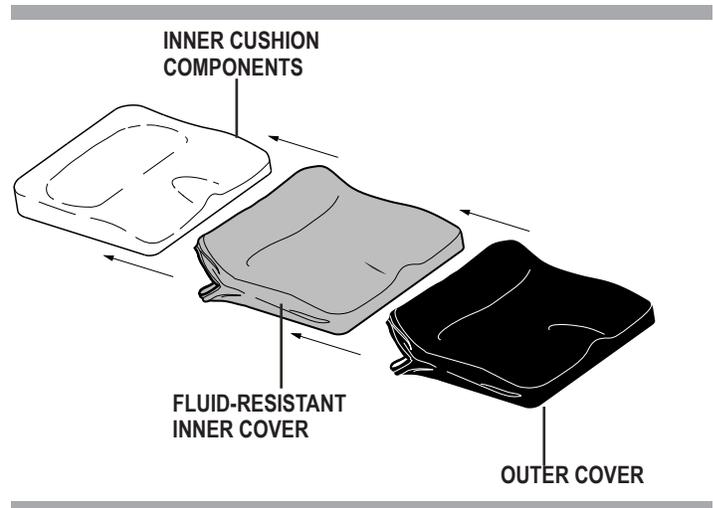

Figure 4. Stealth Cushion
1. Locate the zipper on the rear side of the outer cover. **See figure 4.**